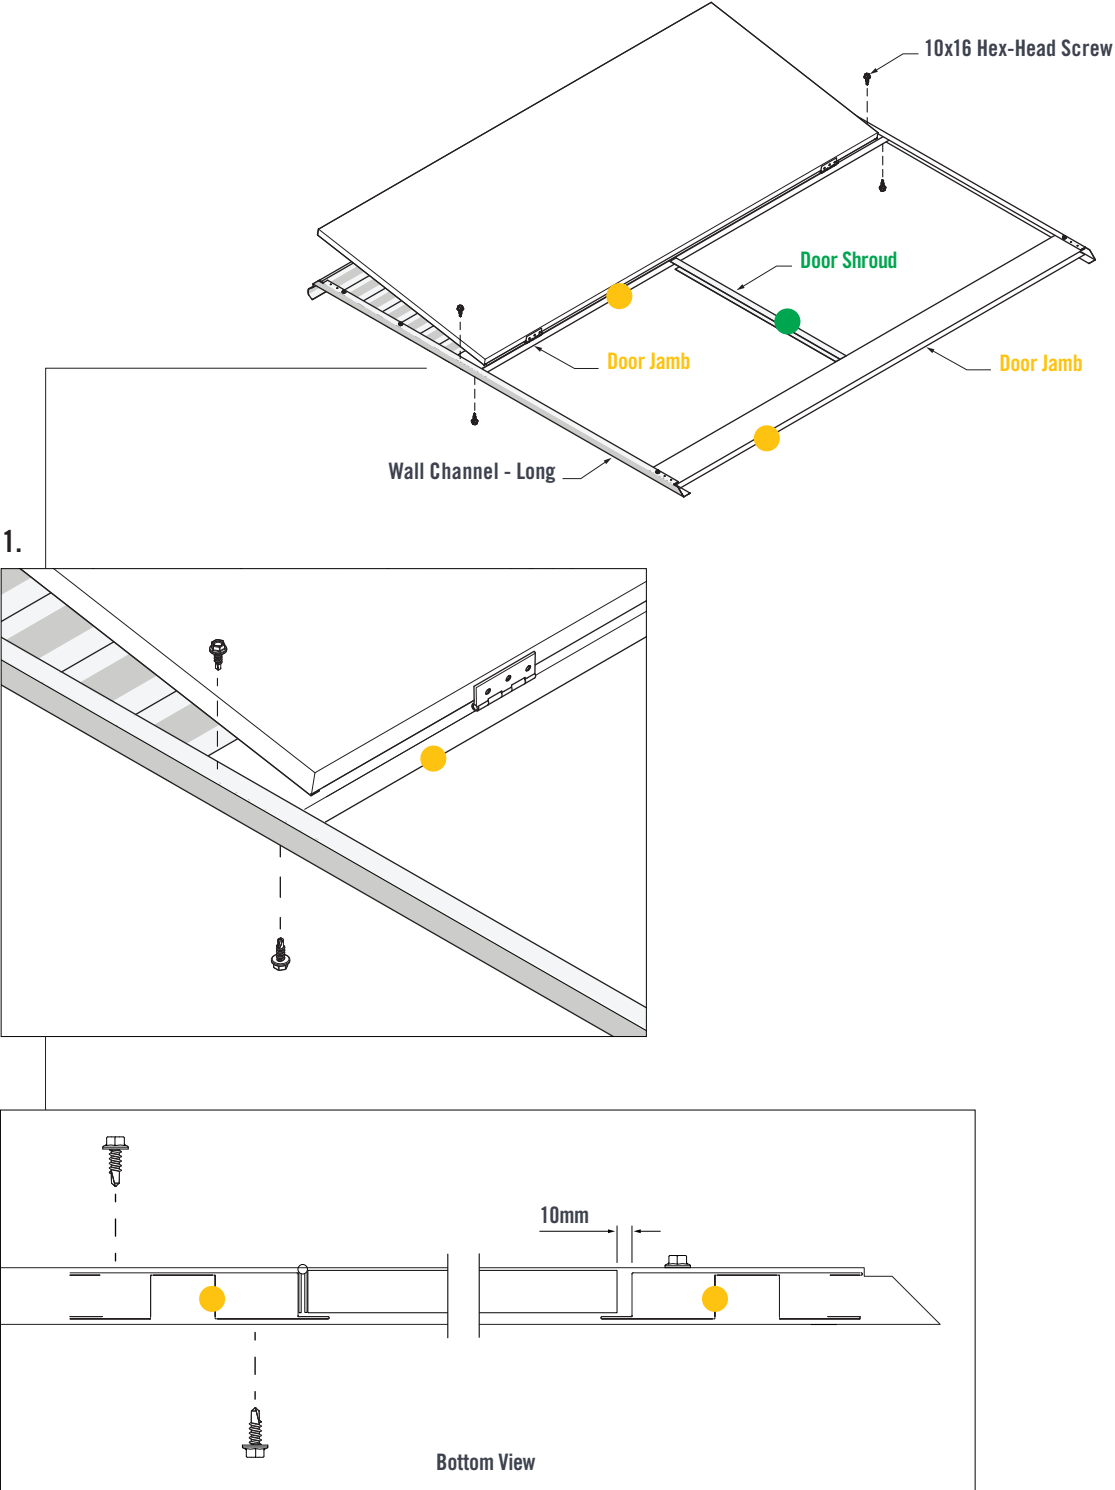

FIGURE 4.3
With the Door open, fit the Door Shroud in-between the Door Jambs. Use the Door Shroud as a guide to set the correct spacing between the Door Jambs (Figure 4.3).
1. Fasten two 10x16 Hex-Head Screws through both Wall Channels and into the Door Jamb. Close the Door and ensure an approximate 10mm gap between the edge of the Door and end Door Jamb (Figure 4.3).